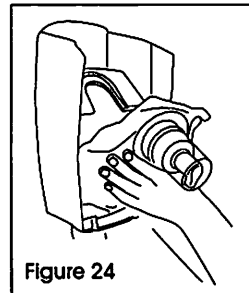
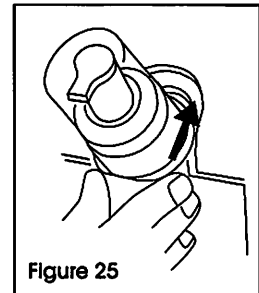

Figure 24
Figure 25
- Hold bag with label towards back. Load bottom of bag into dispenser. (See Figure 24) Slide the bag collar over the guide and push. Be certain the bag collar is completely inserted in the collar guide. (See Figure 25)